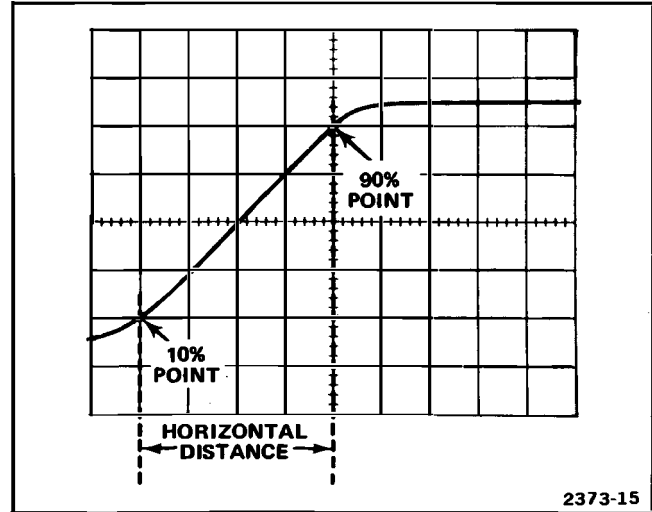

Fig. 15. Measuring rise time.
7. Adjust horizontal POSITION control to move 10% point of waveform to first graticule line. For example, with a five-division display as shown in Fig. 15, the 10% point is 0.5 division up from the start of the rising portion.
EXAMPLE: Assume that horizontal distance between 10% and 90% points is four divisions (see Fig. 15) and SEC/DIV switch is set at 1 μ s. Applying time duration formula to rise time: